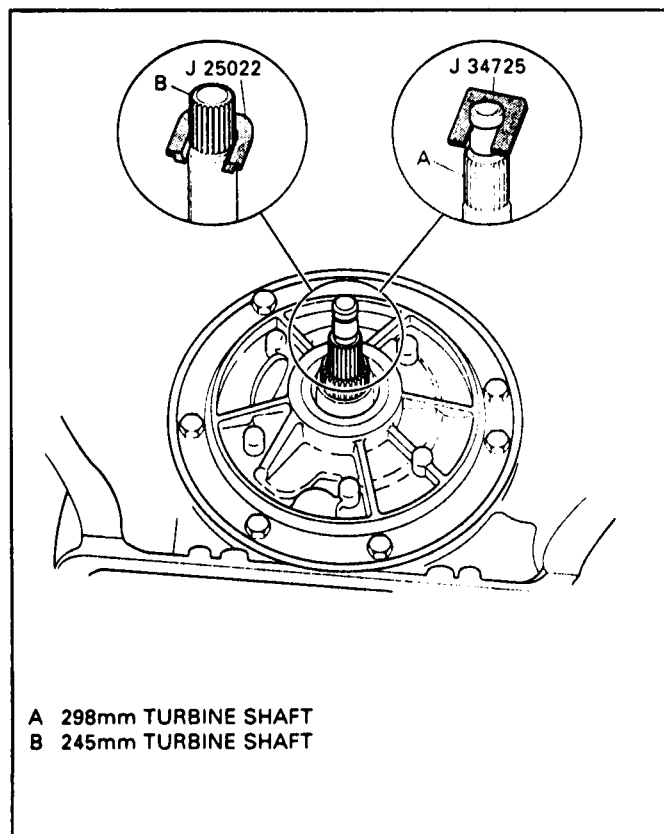

Figure 147
2. Install J-25022 adapter, or J-34725 adapter, as shown in Figure 147, on the turbine shaft.